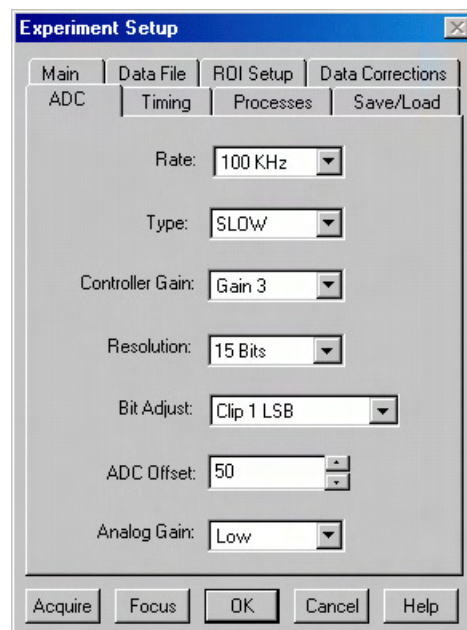

Figure 40. Generic ADC tab page
5. On the **ADC** tab page (Figure 40), set the parameters as they apply to your particular system.